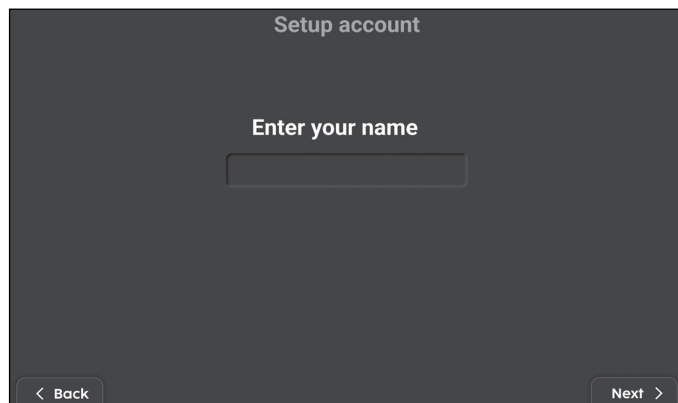

Figure 15
4. Create an account name (**Fig. 15**).